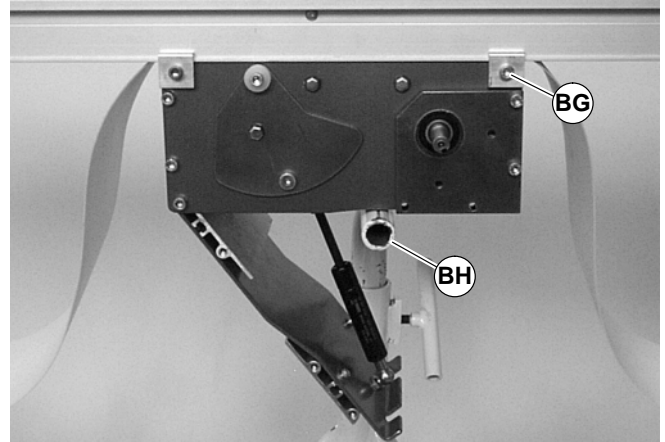

Figure 22
<p>Before loosening clamps (BG of Figure 22), provide a support (BH) under center drive module.</p>
1. Loosen clamp screws (BG of Figure 22) in each corner of the module.
5. Replace the center drive module onto the conveyor and attach clamps (BG of Figure 22) in each corner. Tighten screws to 80 in-lb (9 Nm).